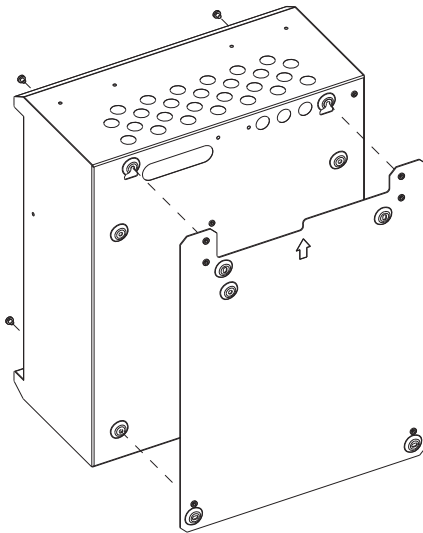
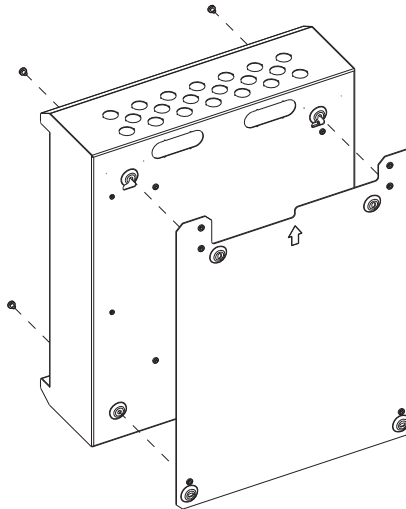

Fig. 6: Fitting the FC702D or FC718D/708D panel housing to the deep cover mounting plate - rear view
Fig. 8: Fitting the FC702S panel housing to the shallow cover mounting plate - rear view
- Hang the panel on the loose screws and screw the bottom two bolts. Refer to Fig. 6 or Fig. 8.